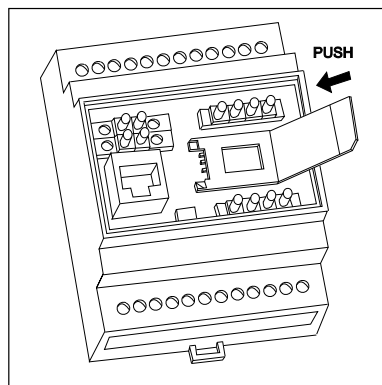

Figure 7.1.3
- Insert the SIM card into the holder so that the notches align (see the *figure 7.1.3*).